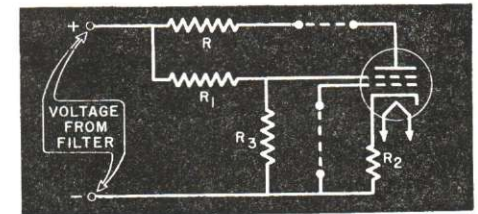

FIG. 23. A typical bleeder circuit.
the operating voltages of the others. ► Fig. 23 shows a typical bleeder circuit. Screen grid voltage reduction is produced by R_1 , which carries both the bleeder current drawn by R_3 and the screen grid current of the tube. The bleeder serves to stabilize or hold steady the screen grid voltage. Should the bleeder open, however, only the screen grid current would flow through R_1 , so its voltage drop would be less and more
9. Suppose the bleeder resistor opens in the circuit shown in Fig. 23. Would you expect the screen grid voltage to: (a) increase; (b) *decrease*, or (c) *remain the same*?
10. Would you expect to find: (1) a choke input; or (2) *a condenser input* filter used with a mercury vapor rectifier tube?